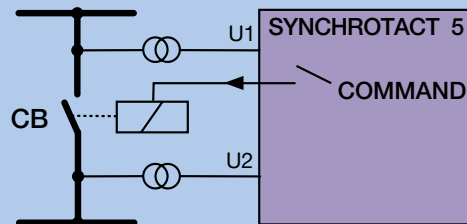

Fig. 2: Paralleling of power lines
2. Automatic paralleling for synchronous and asynchronous lines and busbars (see Fig. 2 below)